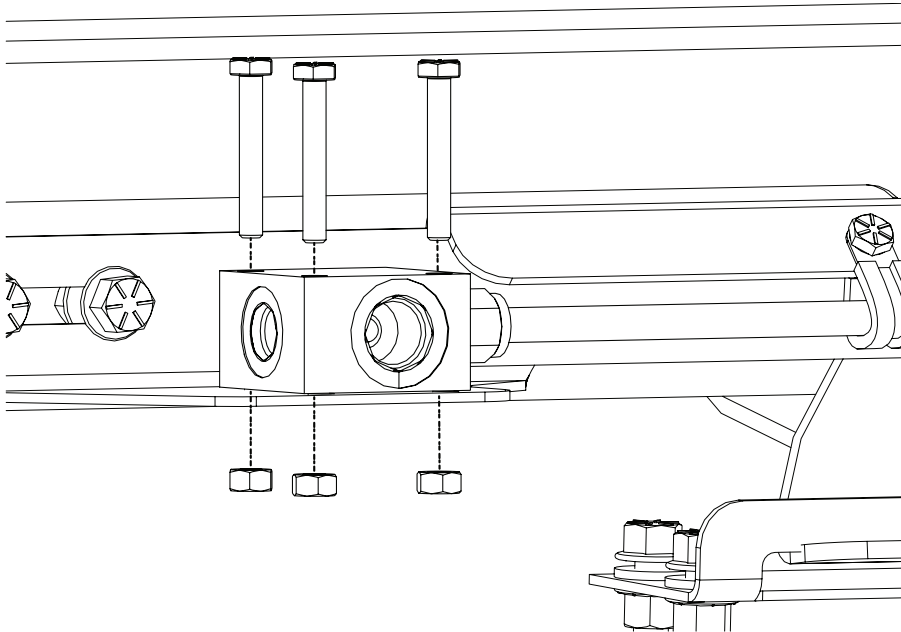
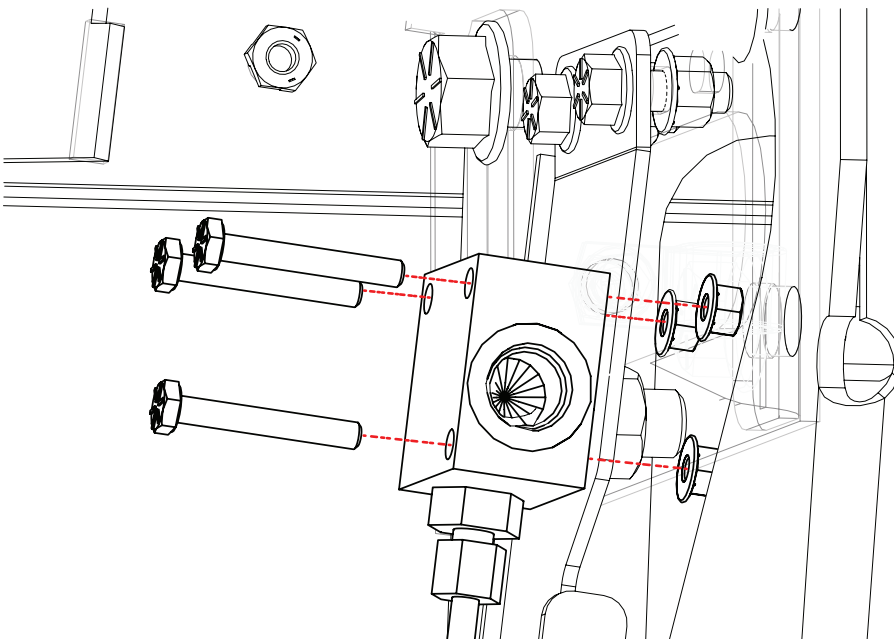

Figure 18: Remove and retain the three bolts and nuts that secure the PRD block to the rail.
Figure 19: Attach the new PRD block to the bracket using the retained three bolts and nuts.
18. Attach the replacement PRD to the rail using the original (3) bolts and nuts (Figure 18 for Frame Mount and Figure 19 for Twin Vertical Mount).
3. Install the bolts, clamps, and nuts that secure the trigger line to the rail (Figure 18). Quantity is dependent on length of trigger line.
5. Connect the feed and vent line fittings to the PRD (Figure 19).